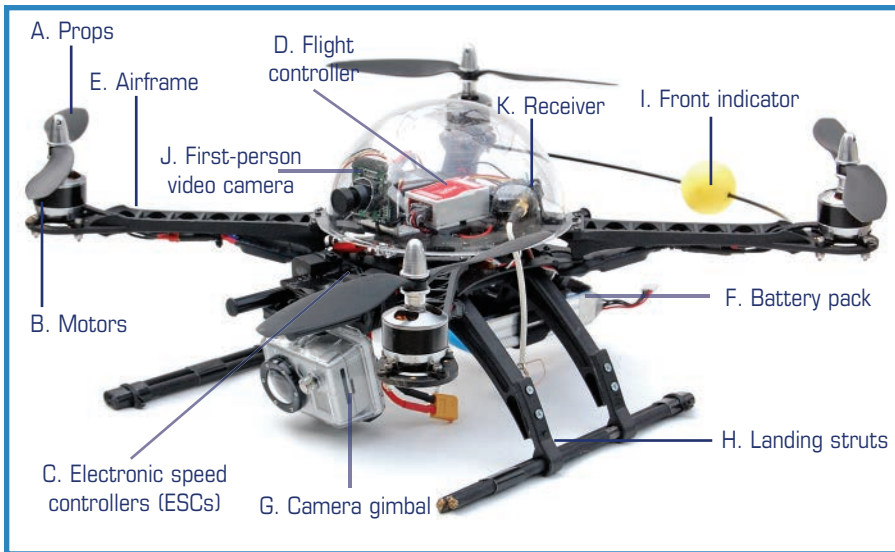

FIGURE 1.5 The quadcopter has a lot of parts and equipment (credit: Steve Lodefink).
Every homemade drone will differ from the next; that said, most drones have a number of features in common. The following are commonplace quadcopter components. Follow along with Figure 1.5 to see how each part fits into the full project.
- I. Front indicator**—Quadcopter operators need to know the front of the hovering aircraft, and it might not necessarily be obvious. Multiple solutions are available, ranging from differently colored props, LEDs, and reflective material—or in the case of the quadcopter in Figure 1.5, a colored ball that marks the *rear* of the craft. All that matters is that it makes sense for you!